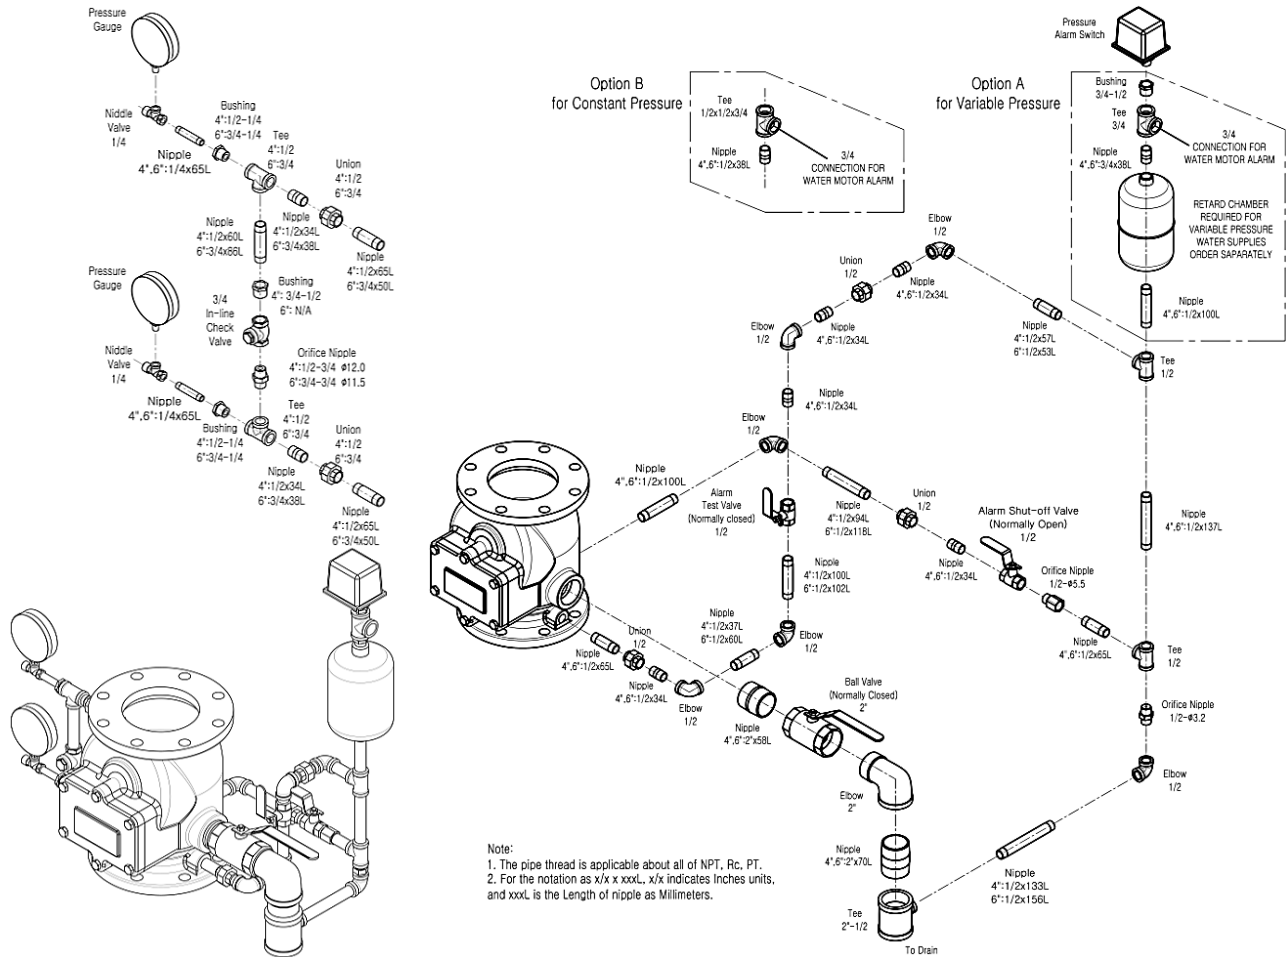

Figure 7 4" (DN100) and 6" (DN150) Alarm Check Valve Vertical Trim
* For Option B (See Figure 7)
3. Install the MWAV-1 Alarm Check Valves and trim according to trim chart shown in Figure 7.